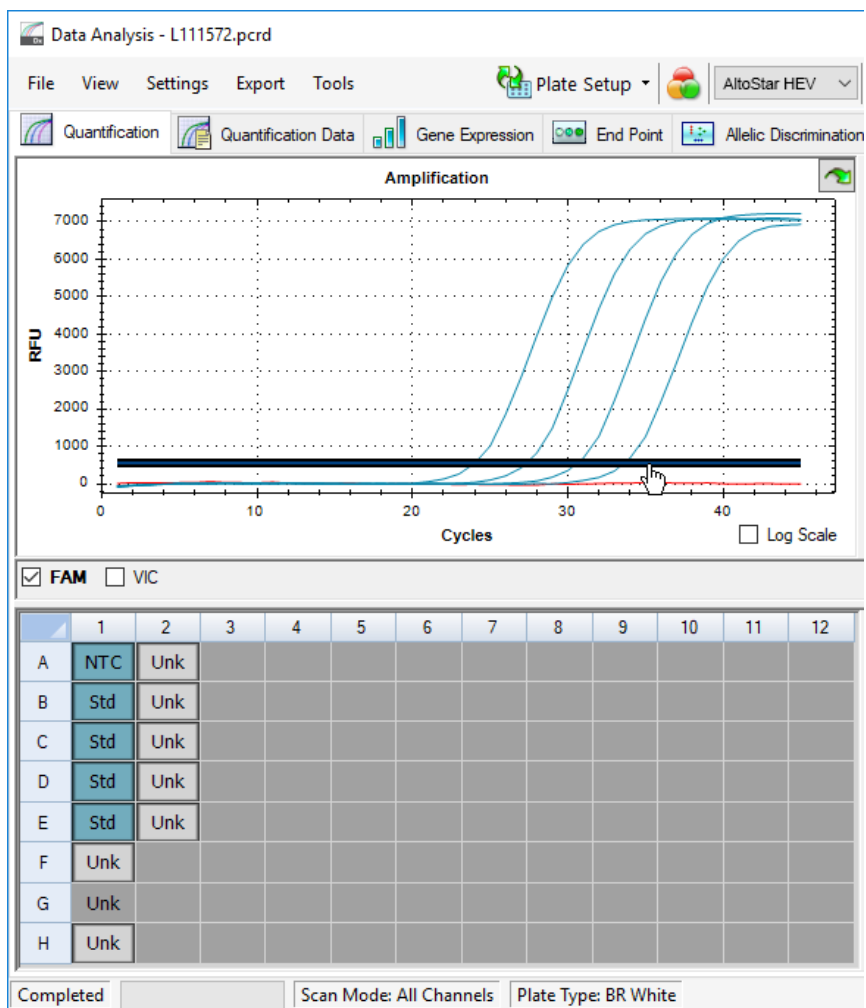

Figure 10: Data Analysis window: setting the FAM™ threshold
5. At the left side of the Data Analysis window untick the **VIC** checkbox and tick the **FAM** checkbox for the detection channel of the HEV target (see figure 10).
6. Select only the wells containing the NTC and the QS in the plate view of the Data Analysis window (see figure 10).
7. Drag the threshold well above the signal of the NTC into the exponential area of the QS signals (see figure 10).